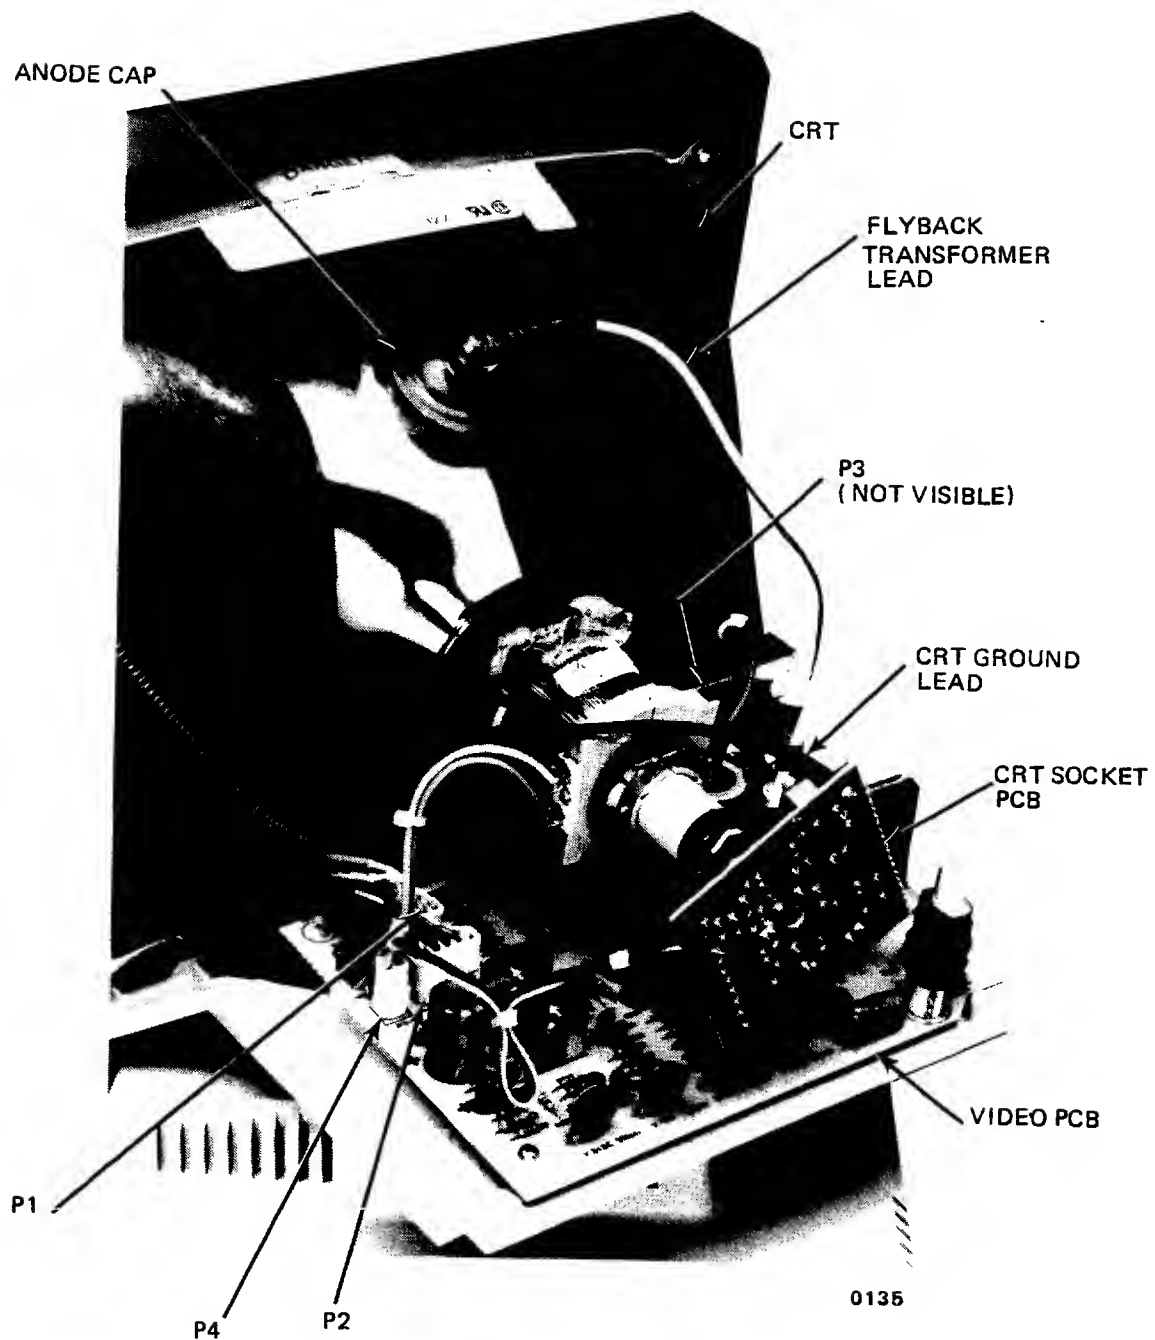

Figure 2-10. Upper Monitor Area
The Upper Monitor Area contains the following subassemblies. Refer to Figure 2-10.
3. Disconnect the following connectors from the video PCB. Refer to Figure 2-10.
3. Disconnect connectors P3 and P4 (horizontal and vertical yoke deflection leads) from the video PCB. Refer to Figure 2-10.
2. Install the CRT socket PCB on the neck of the CRT. Connect the ground lead from the CRT grounding spring to the CRT socket PCB. Refer to Figure 2-10.